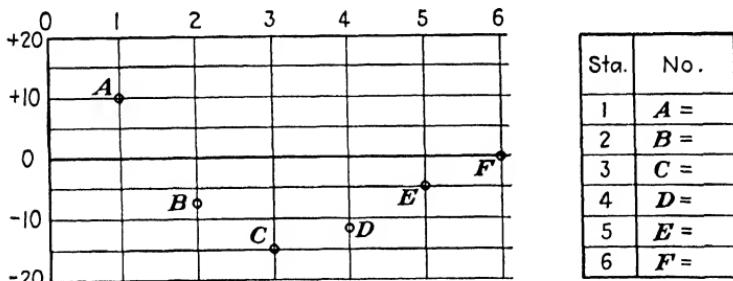

Fig. 196.
1. Complete the table in Fig. 196 from the information given in the graph.